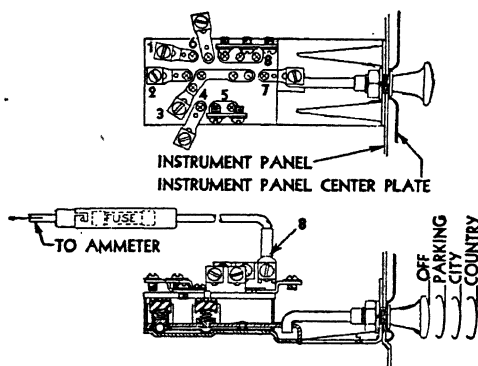

Fig. 17. Light Control Switch
**Light Switches.** Light switches usually consist of two controls, one of which is mounted on the dash and the other one on the toe board, near the clutch pedal position. The Buick light control switch for instrument panel mounting is shown in Fig. 17. In the first position, with the knob pushed to "full in" position, headlamps, parking lamp, tail lamp, and instrument lamp are all off, that is, the switch is open. In the second position, which is out from the instrument board to the first notch, the parking lamp, tail lamp, and